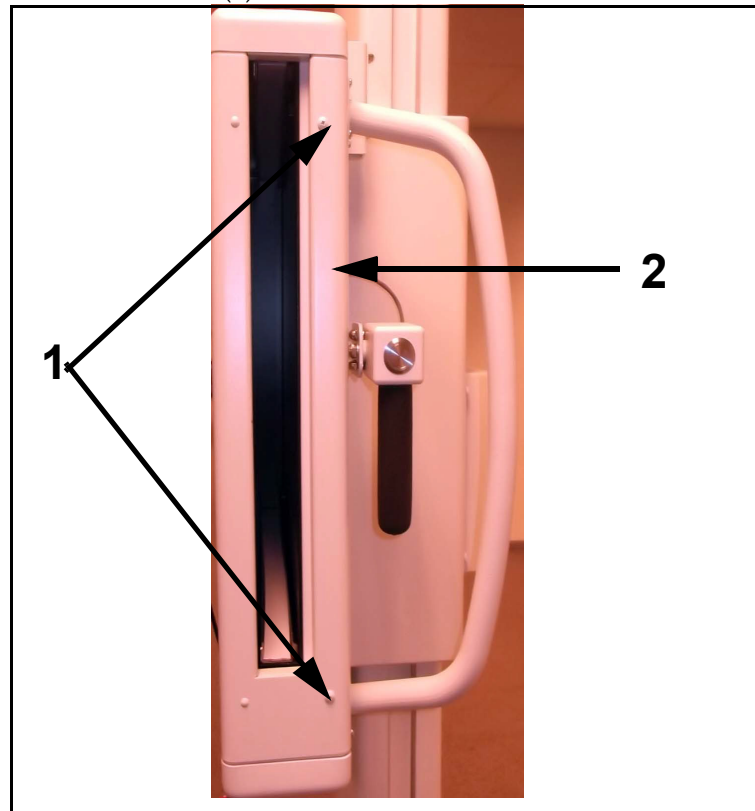

Figure E-4. Side Cover Screws
- 4 Unscrew two right side cover screws (1 in Figure E-4) and remove side cover (2).